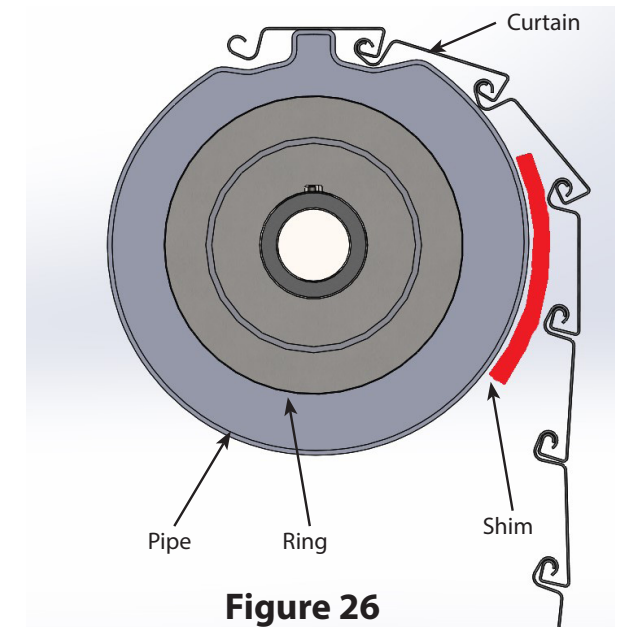

Figure 26
- Use a 1/8" x 6" x 6" thick piece of material and increase thickness or pieces depending on the result acquired, as shown in Figure 26.